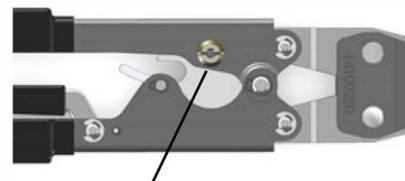

Fig. 11: Adjustment nut
4. Using a pincer tool calibration wrench* or straight blade screwdriver, tighten the adjustment nut (Fig. 11).